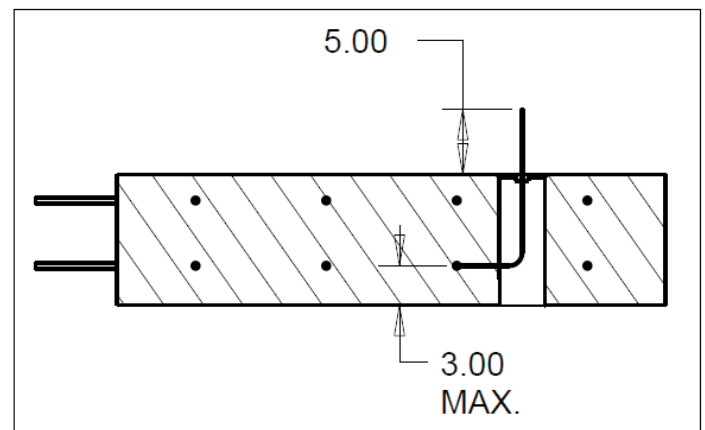

Fig 5: 8ga Copper Wire Location and Dimension.
**Due to local electrical code, it maybe necessary to Bond the Mounting Base to the pools Bonding Grid with 8ga Copper Wire, Fig. 5.